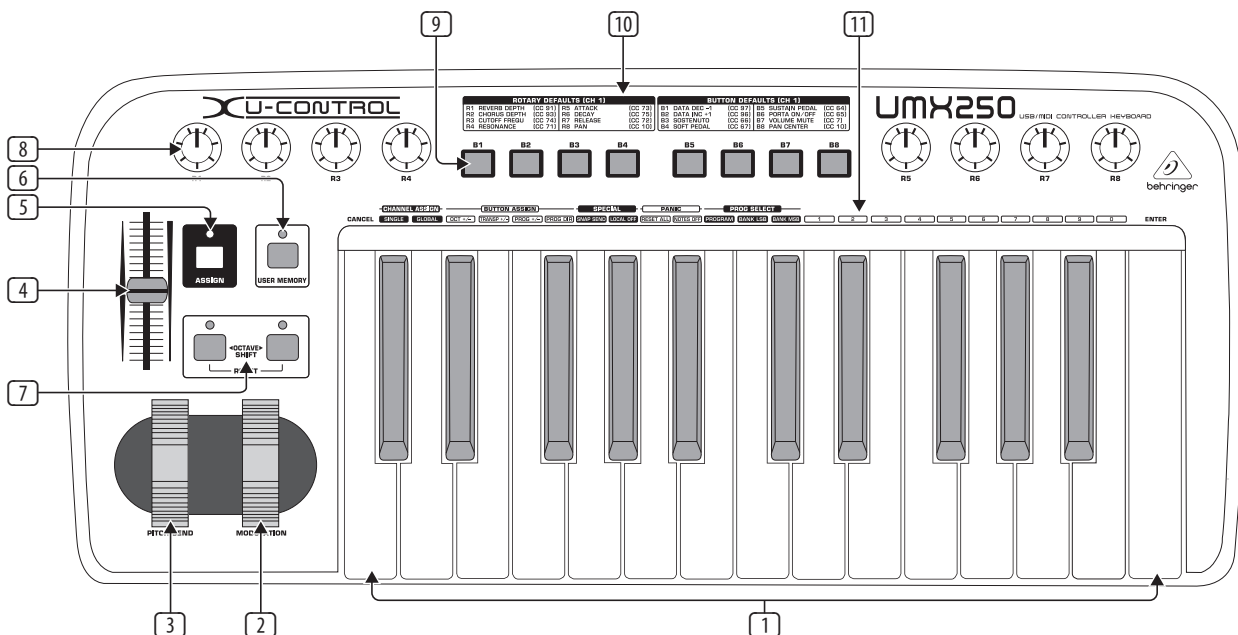

Fig. 3.1: Top view
- ◆ You use the preset controller configuration set in the factory (see Fig. 3.1, 10). In this case, you only need to make the assignments on the receiving device.